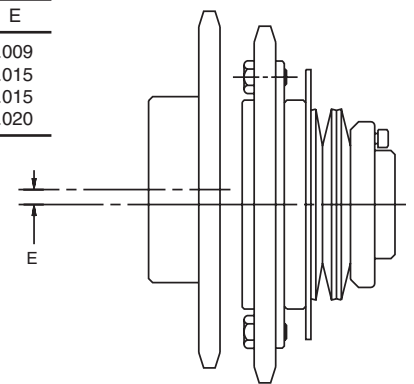

Figure 3
- Angular misalignment should be held within 0.5 degrees. To indicate measure dimension “C” along outside edge of sprocket in at least three locations (Figure 3).